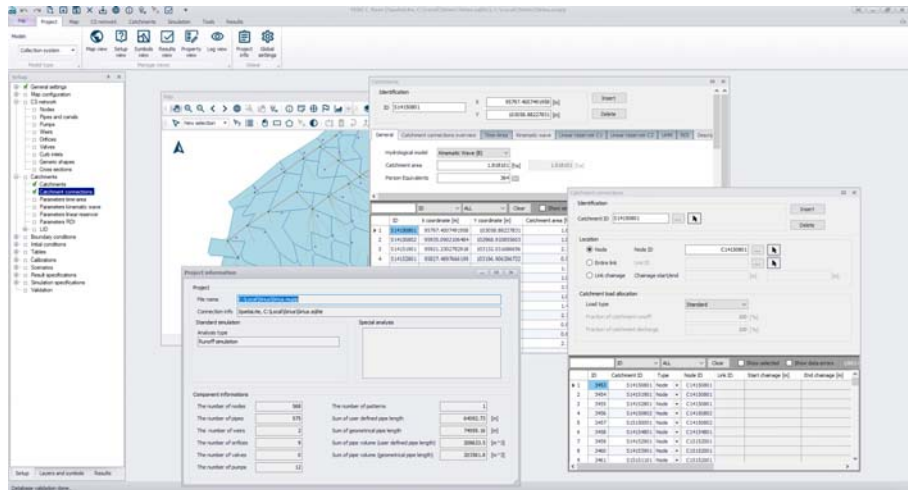

Figure 2.4 MIKE+ user interface with "floating" editors
- When "Floated", editors are displayed in a stack, with the active editor on top. This is shown in Figure 2.4.